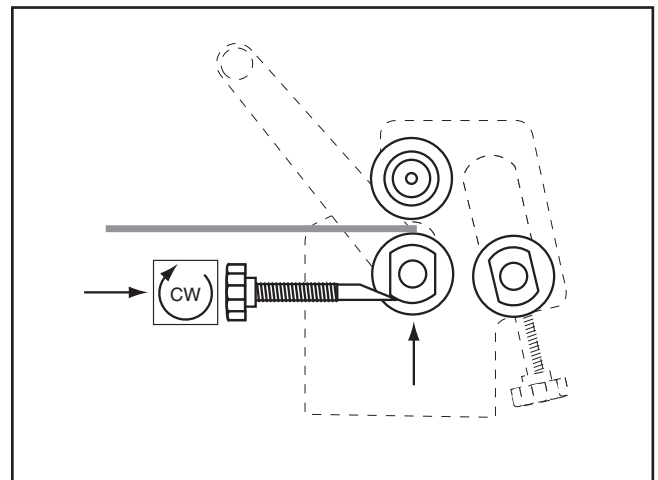

Figure 22. Raising bottom roller.
1. Place the workpiece between the top and bottom rollers, as shown in **Figure 22**. Turn the thickness adjust knobs to lift the bottom roller until the workpiece is held snug between the top and bottom rollers. Be sure to turn the thickness adjust knobs equal amounts.